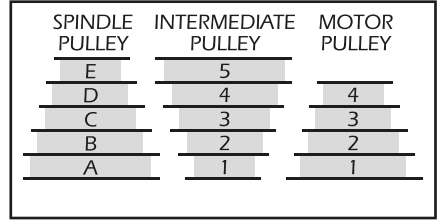

FIG. 12
9.1 SPINDLE SPEED ADJUSTMENT FIGS. 12 - 14